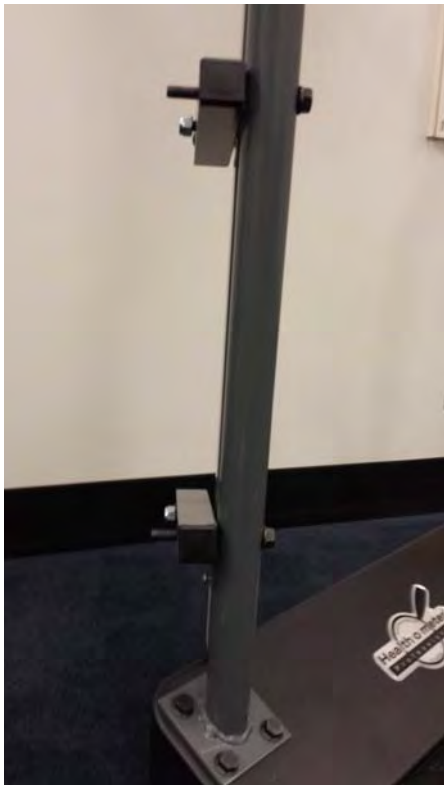

Figure 3
5. Position the assembly next to the handrail, and insert the long screws through the handrail holes. Fasten the lock nut onto the bolt. Be sure the bolt ends are facing away from the scale platform. (See Figures 3 and 4)